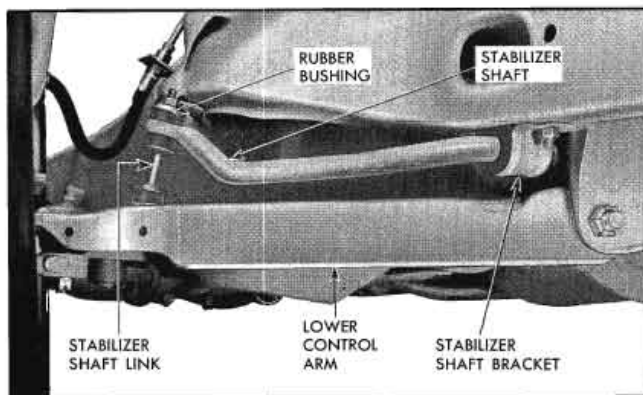

Fig. 3-26 Stabilizer Shaft Assembly
1. Disconnect both links from stabilizer shaft by removing nut from bottom of link and rotating link up from lower control arm (Fig. 3-26).